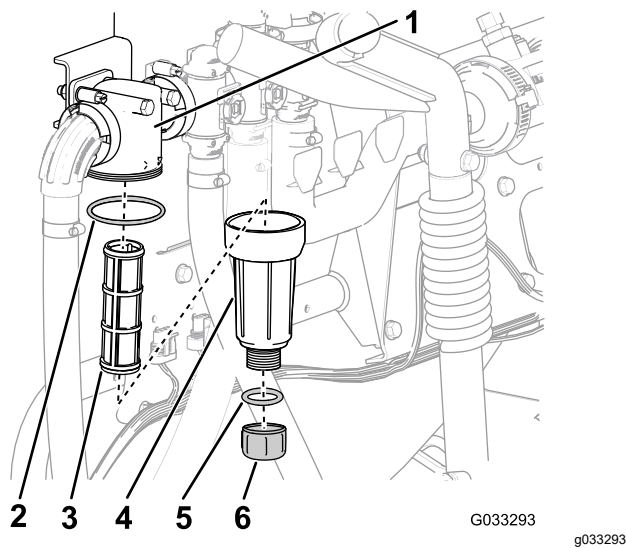

Figure 60
2. Align a drain pan under the pressure filter (Figure 60).
3. Rotate the drain plug counterclockwise and remove it from the bowl of the pressure filter (Figure 60).
4. Rotate the bowl counterclockwise and remove from its filter head (Figure 60).
5. Remove the old pressure filter element (Figure 60).
6. Check the O-ring for the drain plug (located inside the bowl) and the O-ring for bowl (located inside the filter head) for damage and wear (Figure 60).
7. Install the new pressure filter element into the filter head (Figure 60).
8. Install the bowl onto the filter head and tighten by hand (Figure 60).
9. Install the plug into the bowl and tighten by hand (Figure 60).